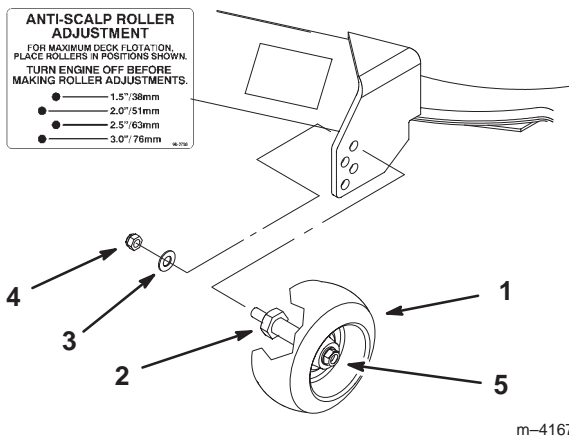

Figure 23
2. After adjusting the height-of-cut, remove the nut and washer while holding the stud with a wrench (Fig. 23).
Note: Do not remove the wheel nut and washer (Fig. 23).
3. Select a hole so that the gage wheel is positioned to the nearest corresponding height-of-cut desired (Fig. 23).
4. Reinstall the stud nut and washer (Fig. 23).